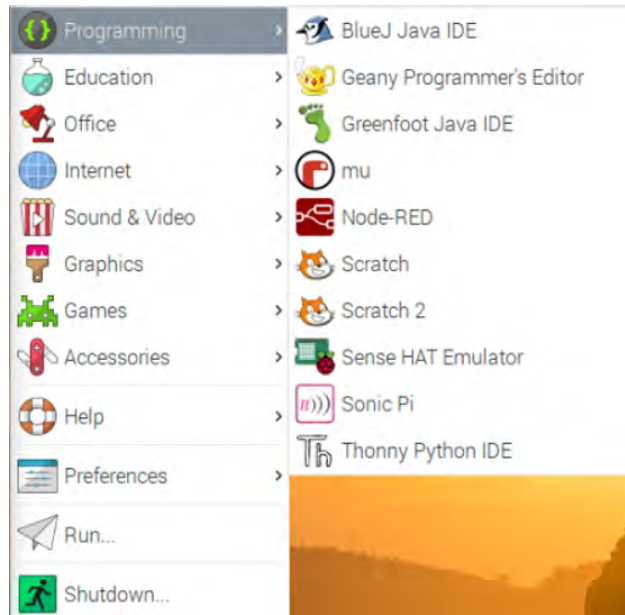

Figure 2.3: Starting the Node-RED service
- Everything should be ready to start programming with **Node-RED**. Open the applications menu by clicking on the Raspberry icon in top left corner. Then from programming tools choose **Node-RED** as shown in Figure 2.3.